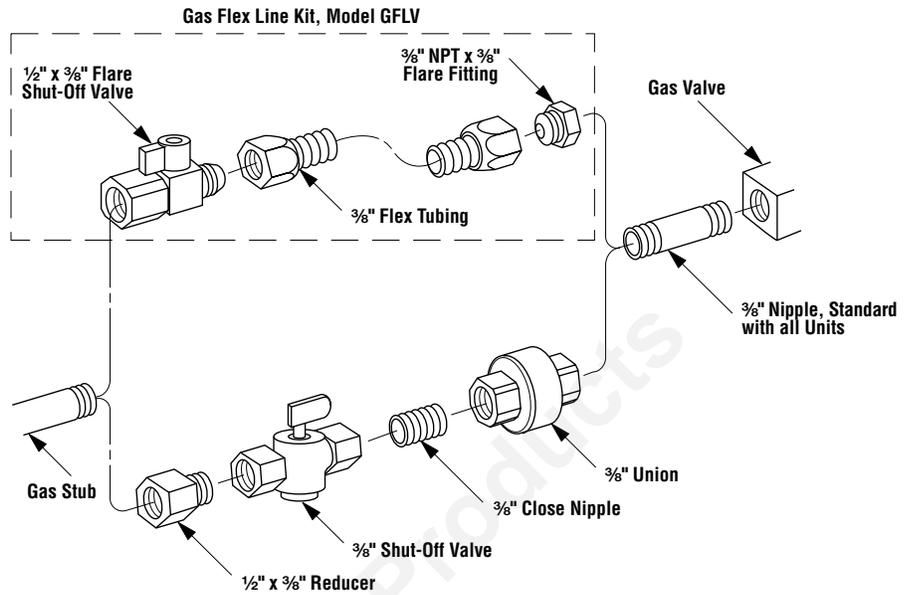

Figure 7
Step 5. Connecting Gas Line – Make gas line connections. All codes require a shut-off valve mounted in the supply line. Figure 7 illustrates two methods for connecting the gas supply. Installation methods and materials must be in compliance with local codes.